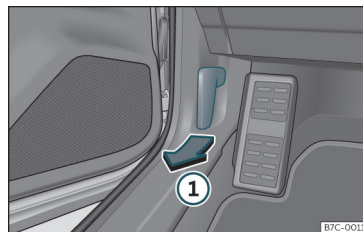

Fig. 9 Release lever in the driver's footwell area.
- Open the door and pull the lever under the dashboard >>> Fig. 9 ①.